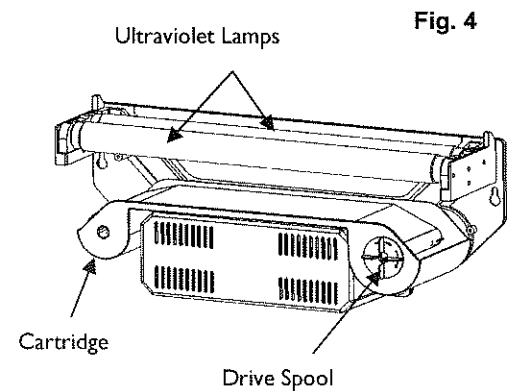

Fig. 4
2. Rotate the drive spool of the cartridge in the direction of the arrow shown on the drive spool until the paper is adhered to itself on the drive spool. (Fig. 4)
3. Position the cartridge on the front of the motor enclosure. Push the cartridge in until it stops. (Fig. 4 & 5)